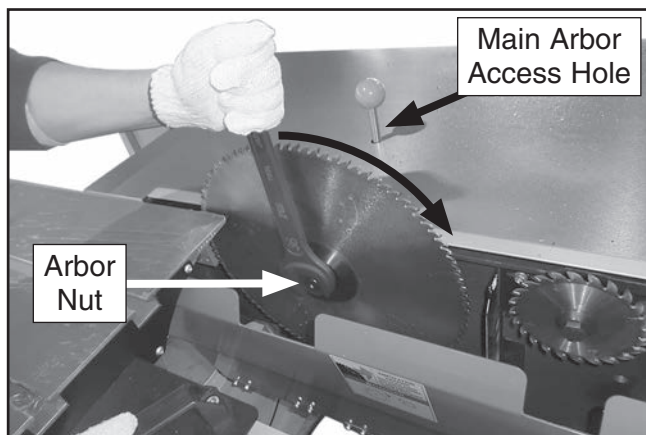

Figure 37. Loosening main blade arbor nut.
24. Insert arbor locking pin into access hole shown in **Figure 37**.